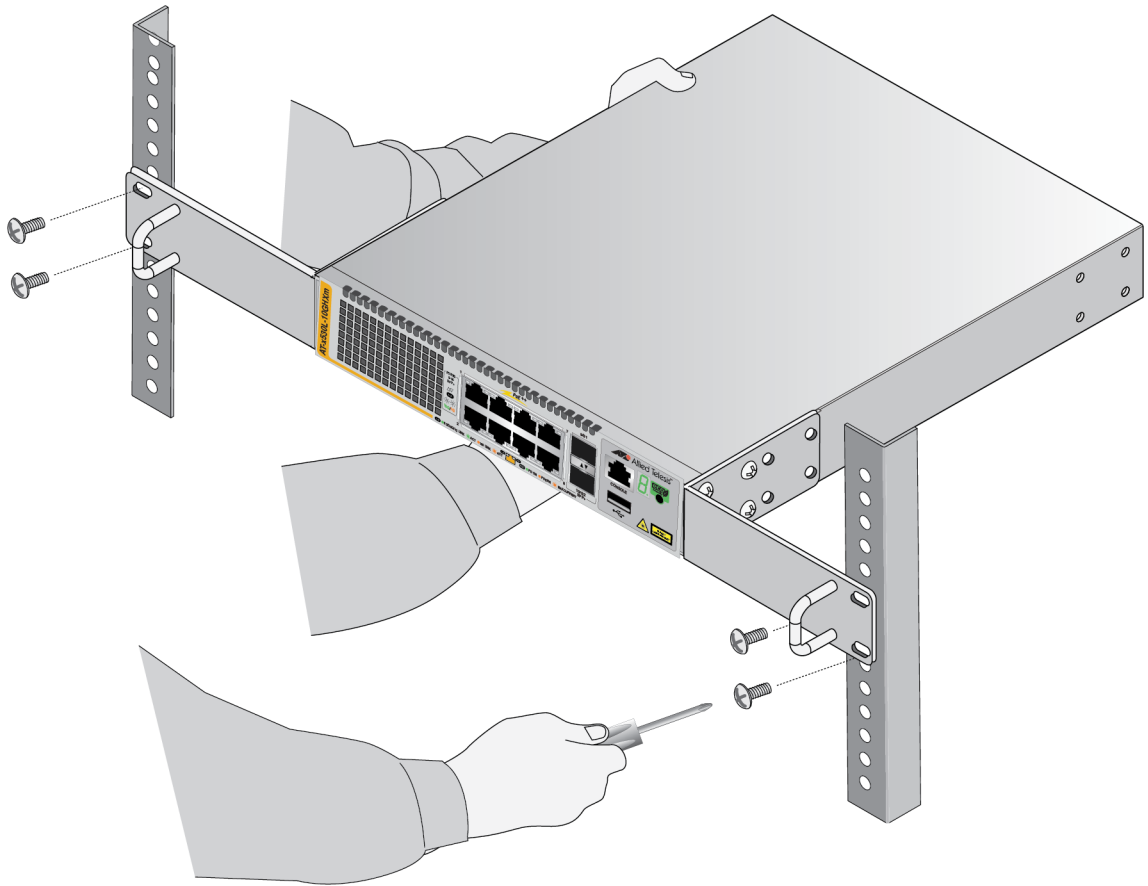

Figure 42. Installing the Switch in an Equipment Rack
4. Have another person hold the switch at the desired location in the equipment rack while you secure it using four standard equipment rack screws (not provided). Refer to Figure 42.